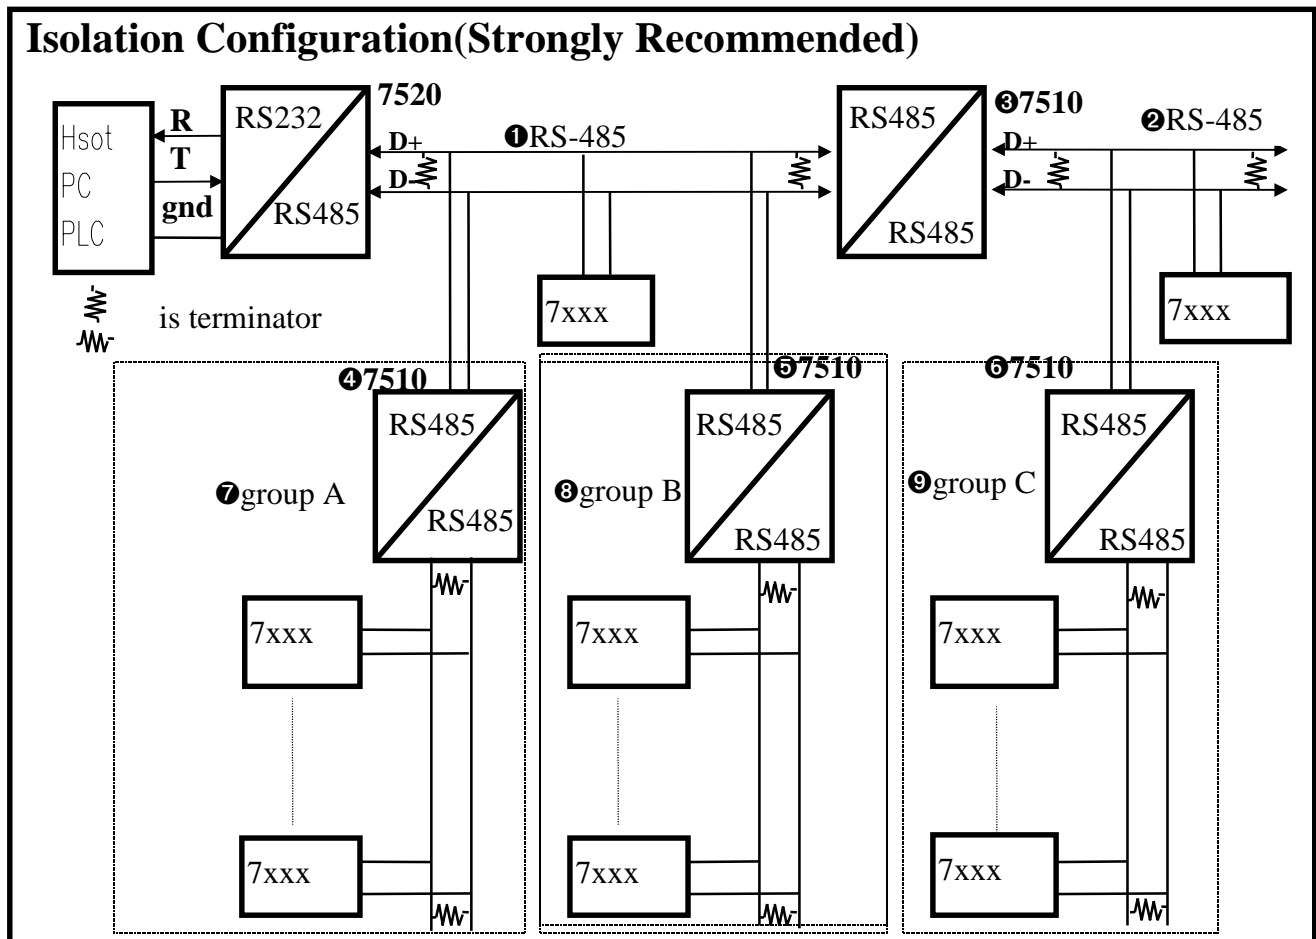

Fig 22
For example, the ❹7510, ❺7510, ❻7510 in Fig 22 are used to isolate local modules from ❶RS-485 network. If there are high energy transient on ❶RS-485 network, all the local modules will be safe. Therefor we strongly recommend the user to select isolation connection, refer to Fig 22.